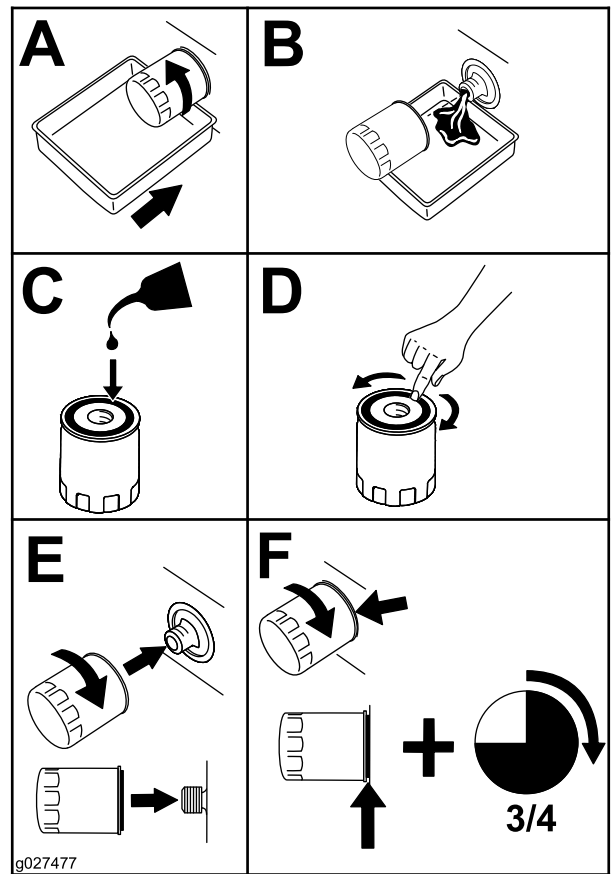

Figure 34
- Change the engine-oil filter (Figure 34).